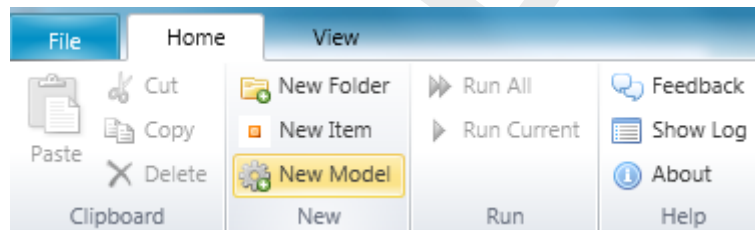

Figure 3.1: Example of the Home ribbon tab with the possibility to add an item, folder or model to the project.
- 1 Click *Add New Folder*, *Add New Item* or *Add New Model* in the *Home* tab of the Ribbon on top of the GUI, as shown in Figure 3.1.